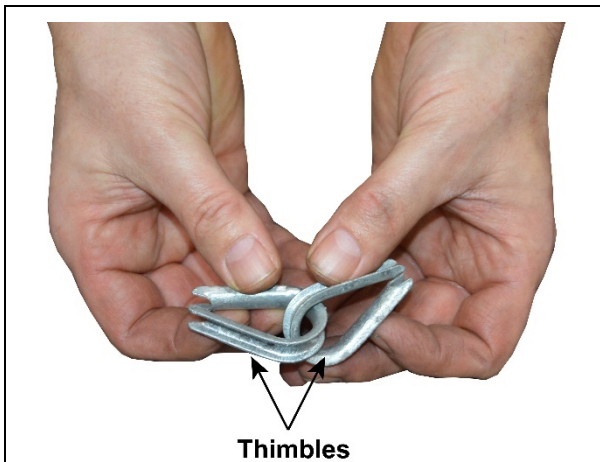

Figure 2-4
- 1) Slide thimbles together. (Refer to Figure 2-4)
- 2) Slide (2) two Crosby cable clamps onto the cable.